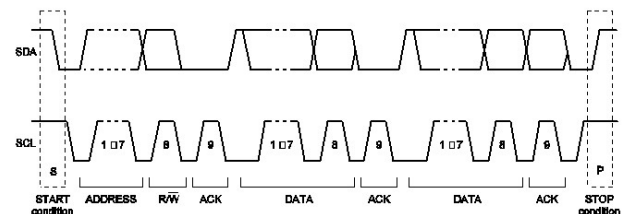

Figure 7: A Complete Data Transfer
Figure 7 shows the format that data transfers follow. After the start condition (S), a slave address is sent. This address is 7 bits long followed by an eighth bit, which is a data direction bit (R/W). A 0 indicates a transmission (write), and a 1 indicates a request for data (read). A data transfer is terminated always by a stop condition (P), generated by the master. However, if a master still wishes to communicate on the bus, it can generate a repeated start condition (Sr) and address another slave without first generating a stop condition.